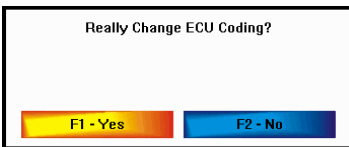
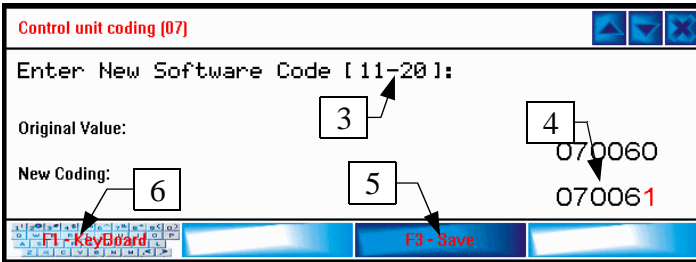

Figure 3.22
Figure 3.24
New value is stored to the ECU by pressing the Save button on the screen. After pressing the Save button you will be asked to confirm the changes (Figure 3.22) and if a positive answer is received the result of the procedure will be shown on the screen (Figure 3.23). The exact meaning of individual codes is explained in the service documentation.
The coding string is split into groups, each containing 10 characters. Information about the current character group is in the upper part of the screen (1) & (3). In the figure 3.23 the first screen with characters 1-10 (2) is displayed. After pressing the Save button a new window with characters 11-20 will appear (4) on the screen. In the case shown in Figure 3.24 only 4 characters are visible. If the Save button (5) is pressed again and if more characters can be coded a new screen with positions 21-30 will appear. If no more characters have to be coded the TSPPro will request confirmation of the changes (Figure 3.22) and if the confirmation is received the coding operation will be confirmed.